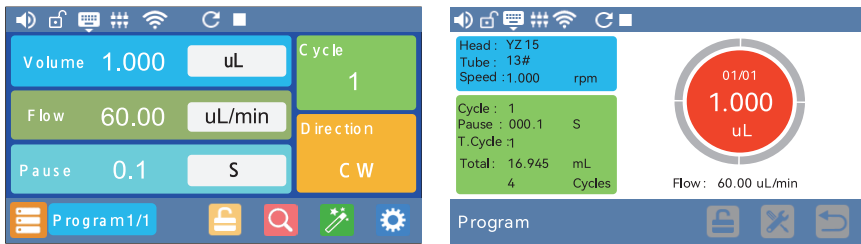
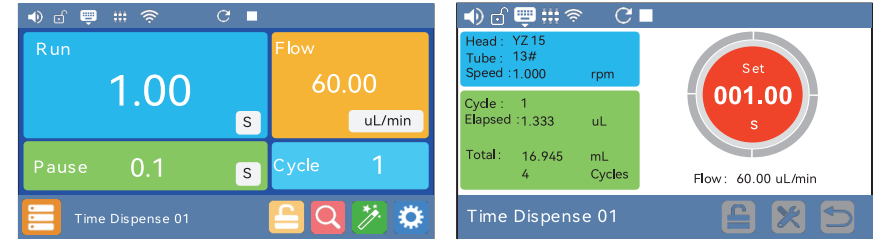

Figure 53 Program Mode Interface
Figure 52 Time Dispensing Interface
- When the power is cut off, connect the circuit according to figure 52 or figure 53, and connect the DB15 interface to the back interface of the pump.